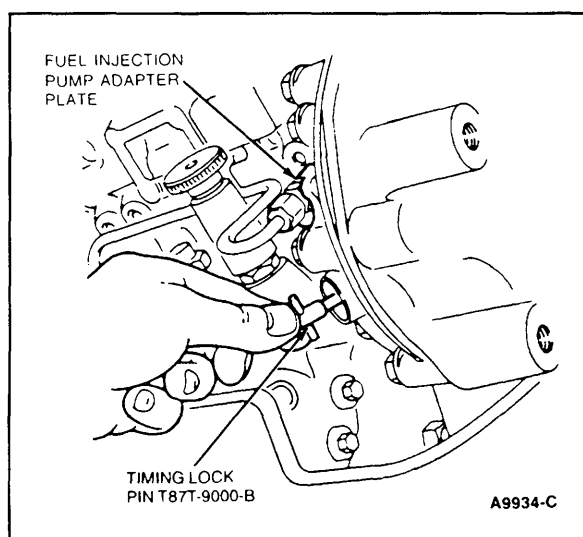

Figure 17 Lock Pin in Adapter Plate Installation
2. Remove the plug from the injector pump adapter plate timing pin location and install timing lock pin into the adapter plate (Figure 17).